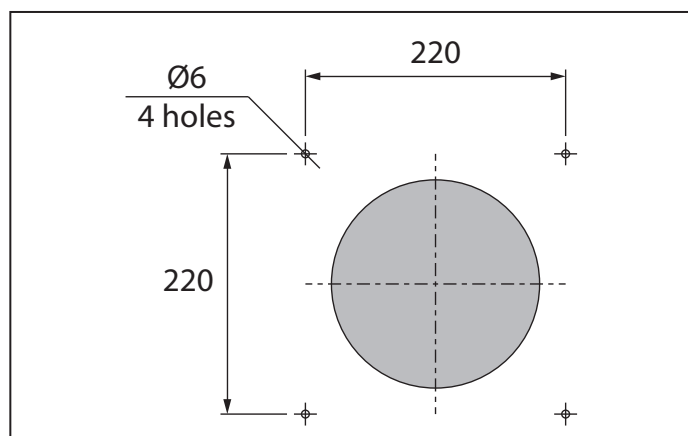

Fig. 11a.
- Fig. 11a – for the models VENTO A50 / A50-1;